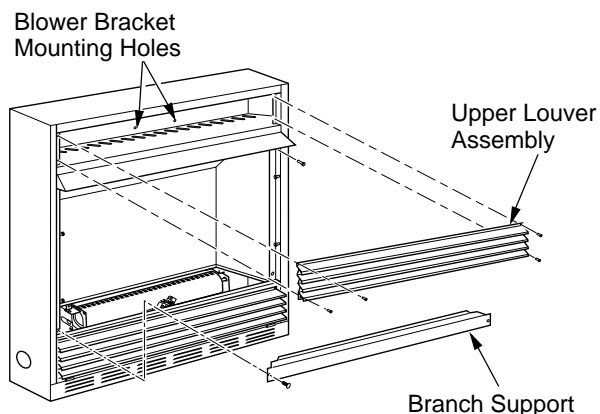
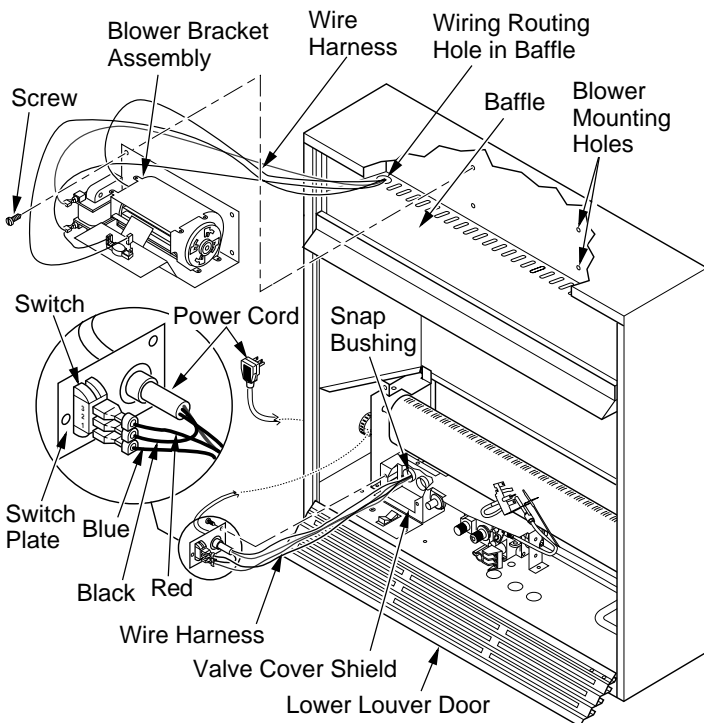
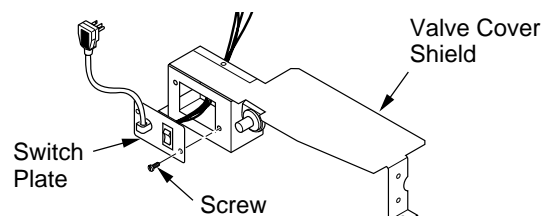

Figure 15 - Removing Upper Louver Assembly and Branch Support
Figure 16 - Installing Blower Bracket Assembly
Figure 18 - Installing Switch Plate to Valve Cover Shield
2. Remove 2 screws from each side of branch support and pull branch support out (see Figure 15).
3. Remove 4 brass-plated screws from upper louver assembly (see Figure 15). Save these screws.
5. Open lower louver door by swinging door down (see Figure 16, page 13).
3. Note the wire locations on back of AUTO/OFF/ON switch. The terminals on back of switch are numbered 1, 2, and 3. Carefully remove red wire from terminal 3 and blue wire from terminal 1. Black wire can remain on middle terminal 2 (see Figure 16).
5. In top of the fireplace cabinet, locate the four mounting holes on the outer casing. Align these four holes with those on the blower bracket assembly. Attach blower bracket assembly to the outer casing with 4 #10 screws provided (see Figure 16).
6. Route the wire harness through the hole in left side of baffle. Pull wire harness through lower opening on the side of the valve cover shield. (see Figure 16).
7. Insert the 4 wire harnesses into one of the round holes in the rear of the valve cover shield and through the rectangular hole in the front of shield (see Figure 16).
9. Install the switch plate on the valve cover shield with 2 #10 screws provided (see Figure 18). Route power cord out of the cabinet by inserting it through the bushing on the outer casing (see Figure 16). Plug fan kit into 120-Volt grounded power supply and test operation. **Note:** When switch is in the AUTO position, the fan will start after the fireplace has run for a few moments. The fan will continue to run for several moments after the fireplace has been turned off. When switch is in the ON position, the fan will run until turned to OFF. Reinstall upper louver assembly (see Figure 15, page 12) and branch support. Close lower louver door.
6. Reinstall upper louver assembly (see Figure 15, page 12) and close lower louver.